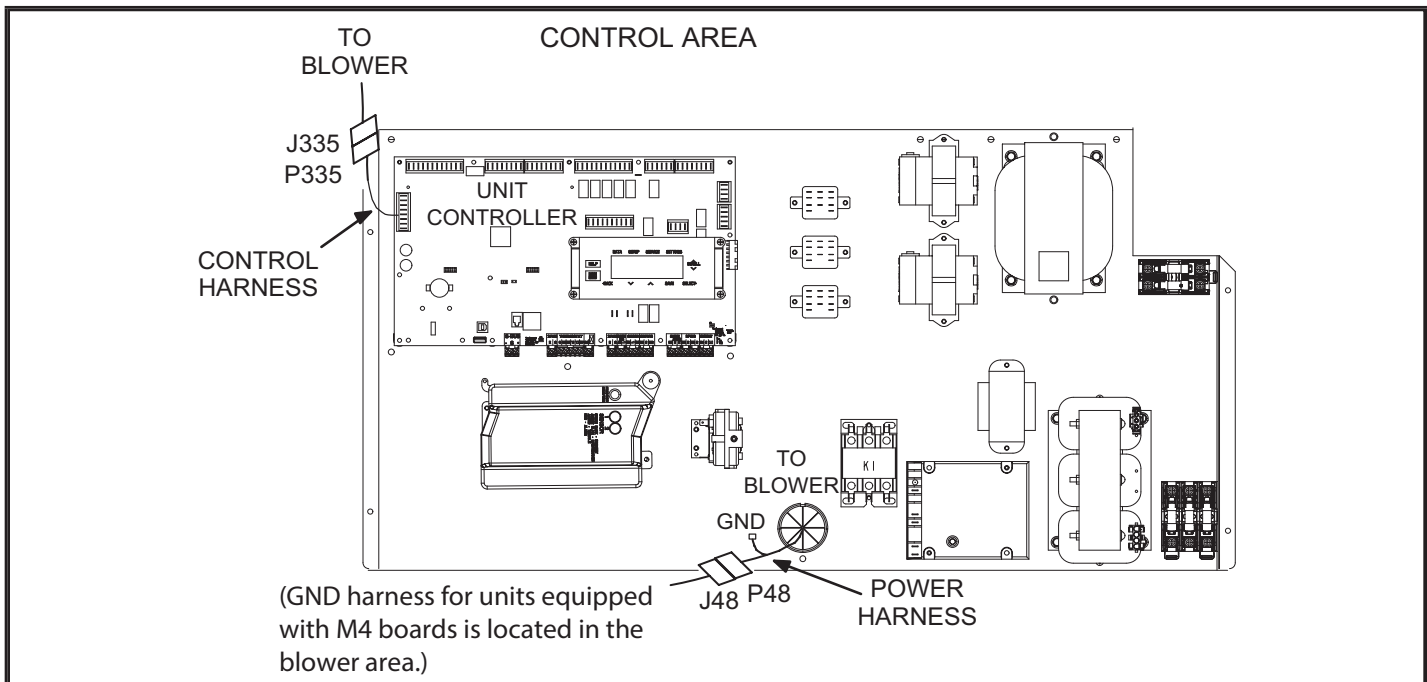

FIGURE 3
- 3 - Disconnect P48, 3-pin, power harness and unscrew the GND terminal from the control panel. See FIGURE 3.
- 4 - Disconnect J335 control harness from P335 control connect located in the control box. See FIGURE 3.
- 24 -Reconnect P48 in the same manner it was removed. Connect P48 to J48 and screw GND terminal to control panel as shown in FIGURE 3.